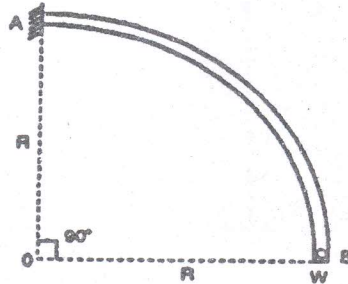

Fig. 7
19. A curved beam in the form of a quadrant of a circle of radius R and having a uniform cross section is in a horizontal plane. It is fixed at A and free at B as shown in figure 7. It carries a vertical concentrated load W at the free end B . Compute and draw the shear force, bending moment and twisting moment diagrams. Also determine the vertical deflection at the free end B . (16)